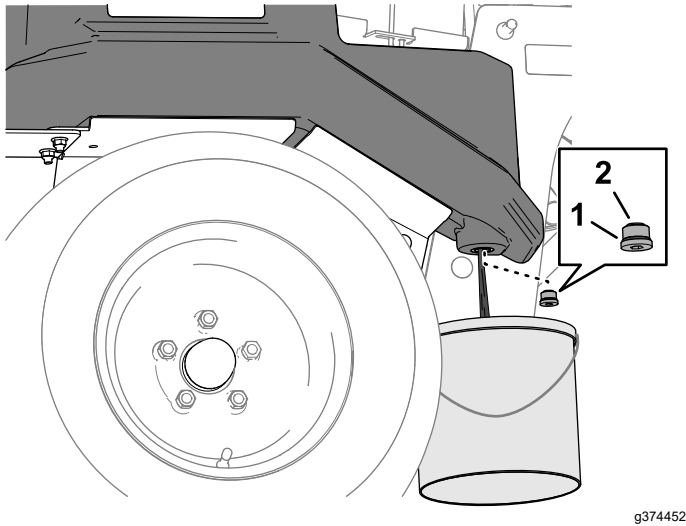

Figure 95
3. Align a drain container with a 30 L (8 US gallons) or larger capacity under the forward corner of the hydraulic tank (Figure 95).